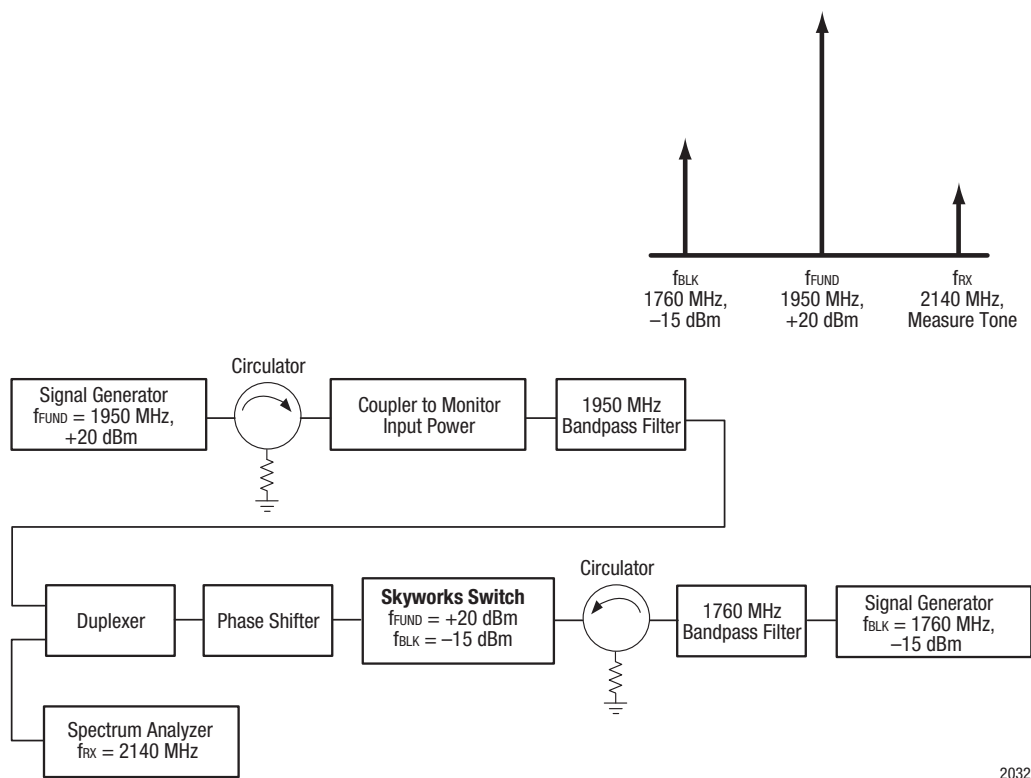

Figure 3. Typical Third Order Intermodulation Test Setup
Figure 3 illustrates the test setup used to measure intermodulation products. This industry standardized test is used to simulate the WCDMA linearity of the antenna switch. A +20 dBm continuous wave (CW) signal, f_{UND} , is sequentially applied to the TRX ports, while a –15 dBm CW blocker signal, f_{BLK} , is applied to the ANT port.